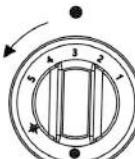

Fig. 9
- To select the temperature, turn the knob to the desired position. (Fig. 9)